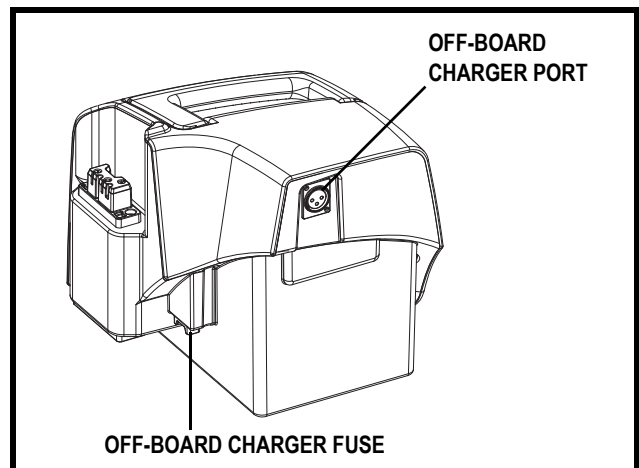

Figure 5A. Off-board Charger Port (Battery Box Mounted)
Your scooter is equipped with a series of electrical system fuses, which help protect the off-board charging system, key switch, and lighting system from receiving an overload of electrical current. These fuses are the same type used in automobiles and are located in a compartment on the tiller. See figure 6. If your scooter is equipped with battery boxes, a separate 10-amp fuse is located on the right battery box. See figure 5A. This fuse protects the off-board charging system when the batteries are charged off of the scooter. See IX. “Care and Maintenance” for fuse replacement.
5. Plug the 3-pin charger power cord into the off-board charger port on the right battery box. See figures 5A and 10A.